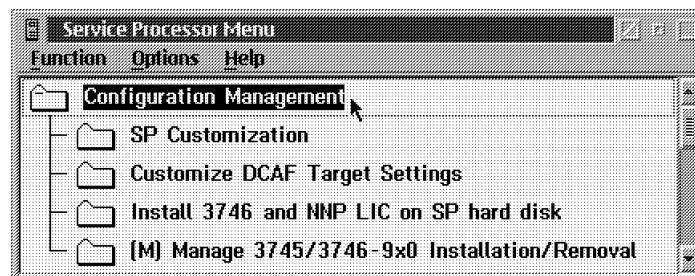

Figure 1-14. Service Processor Configuration Management Functions
All maintenance functions are identified by an **(M)** preceding the text (example: see Figure 1-14 function **(M) Manage 3745/3746-900 Installation/Removal**).